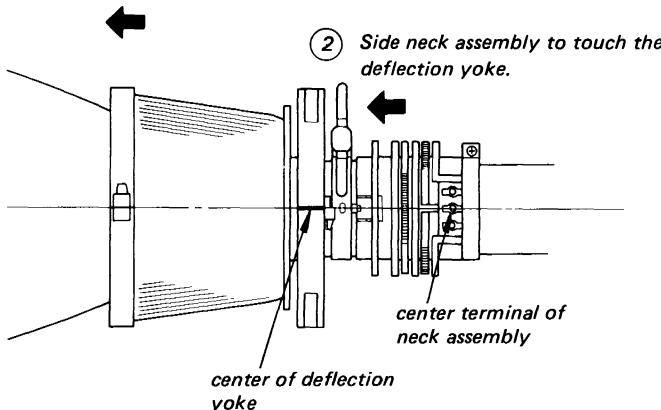

Fig. 3-1
- (1) Degauss the whole chassis.
- (2) Set the three deflection yoke and neck assemblies as shown in Fig. 3-1.
- (4) Tighten the deflection yoke screw in position.
- (5) Position the green neck assembly as shown in Fig. 3-1, and tighten the neck assembly screw in position.